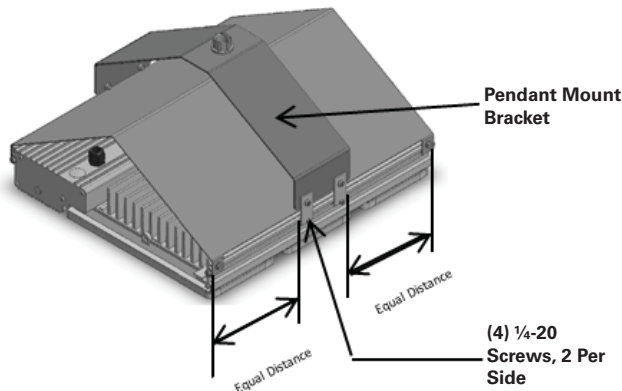

Figure 2
1. Install the pendant mount bracket with the hardware provided, four (4) ¼-20 screws (see Figure 2). Center the pendant mount bracket on luminaire (see Figure 2). Measure from each end of the luminaire to the edge of the pendant mount on each side. The distance from side to side should be equal or within 1/16" to each other. Tighten the ¼-20 screws to 65 in.-lbs. and tighten the 10-24 screws to 21 in.-lbs. DO NOT REMOVE MOUNTING TAB RETENTION SCREWS. If mounting tab retention screws are removed, make sure to re-install and tighten to 65 in.-lbs. torque.